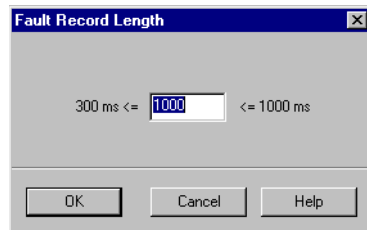

Figure 6-15 Fault Record Length dialog box in DIGSI
- ❑ Click **Device** → **Trigger test fault recording...** on the menu bar. The window Fault Record Length opens (Figure 6-15, page 256).